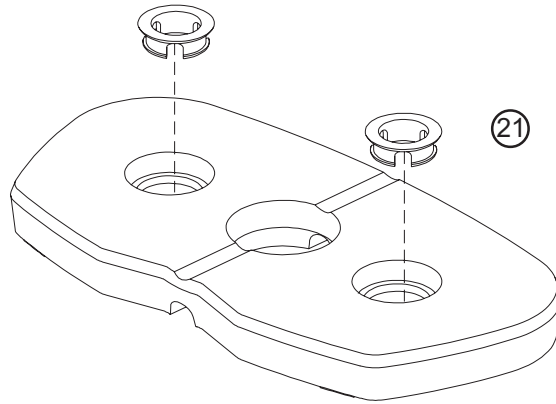

FIGURE 3
Make sure that the WEIGHT PLATES (21) are assembled as shown in Figure 3 and the HEAD PLATE ASSEMBLY (23) is assembled as shown in Figure 4.